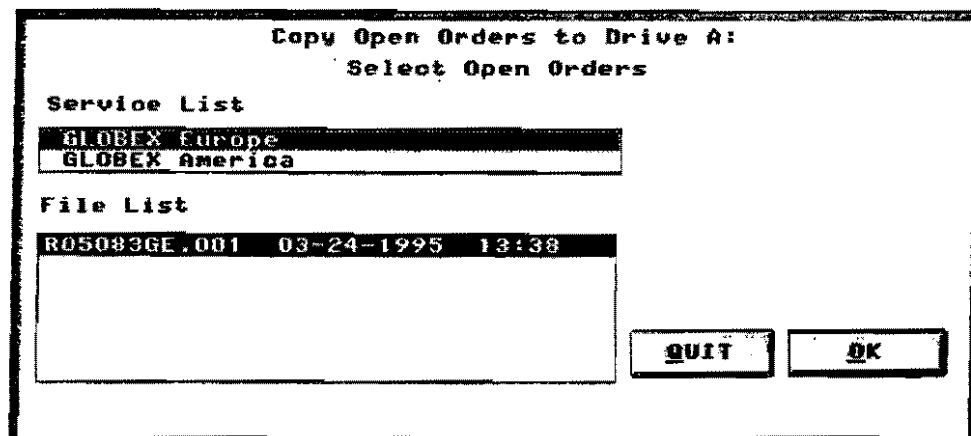

Figure 12.6 Copy Open Orders Dialog Box
1. Select **Open Orders** in the Copy menu to display the dialog box shown in Figure 12.6. The highest priority Service is selected. The most recent open order files are listed.